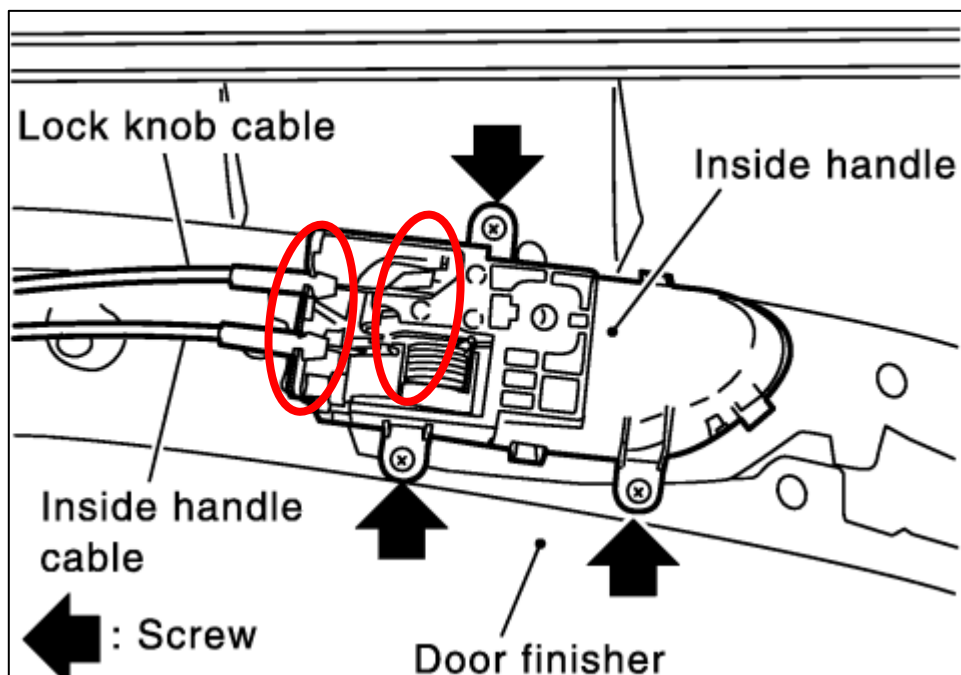

Figure 15
10. Disconnect the Door Latch and Lock cables from the Door Panel. They will easily pop out. *Figure 15.*